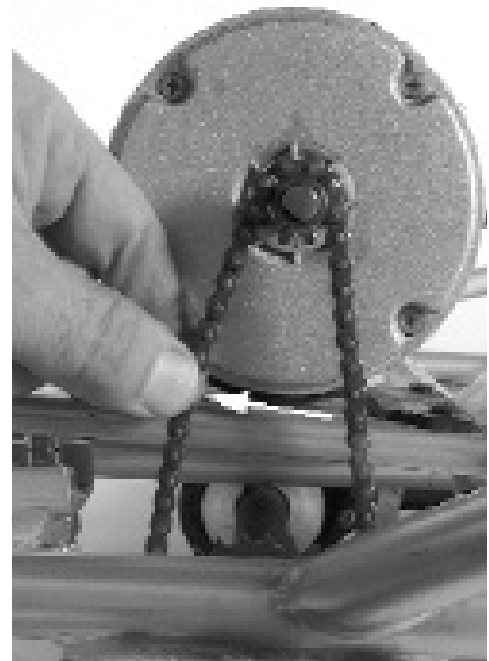

Figure 8c
**NOTE About chain adjustment:** The chain should be **not** be under tension nor floppy loose. There should be about 3/8-inch (10mm) of slack (refer to figure 8c). BE CAREFUL NOT TO ADJUST TOO TIGHT. The tensioning system can easily impart too much tension and snap the chain or bend the motor output shaft. Turn the adjusting bolt by hand 1/8 to 1/4 turn or less, at a time and recheck the adjustment each time.